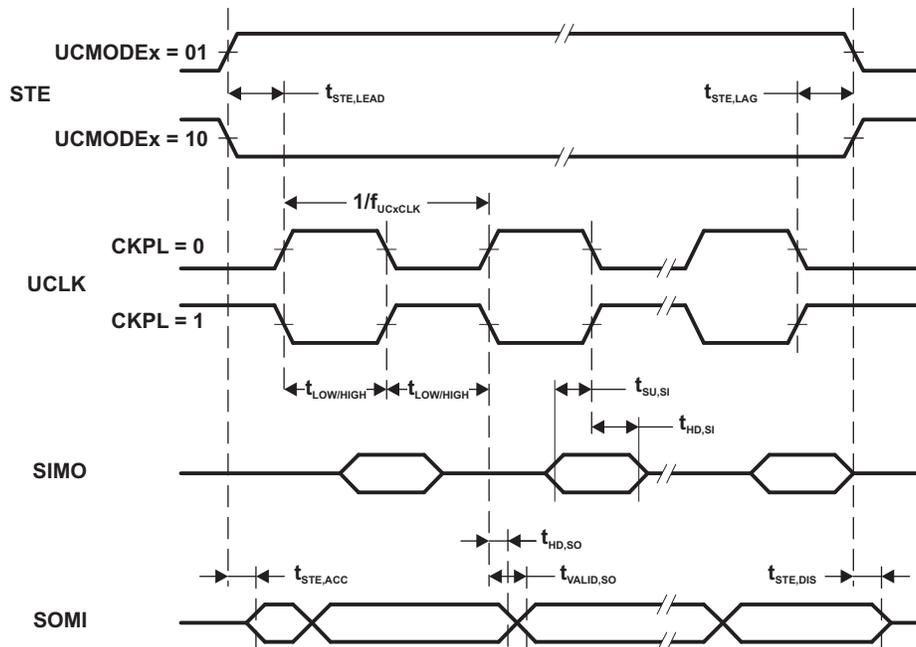
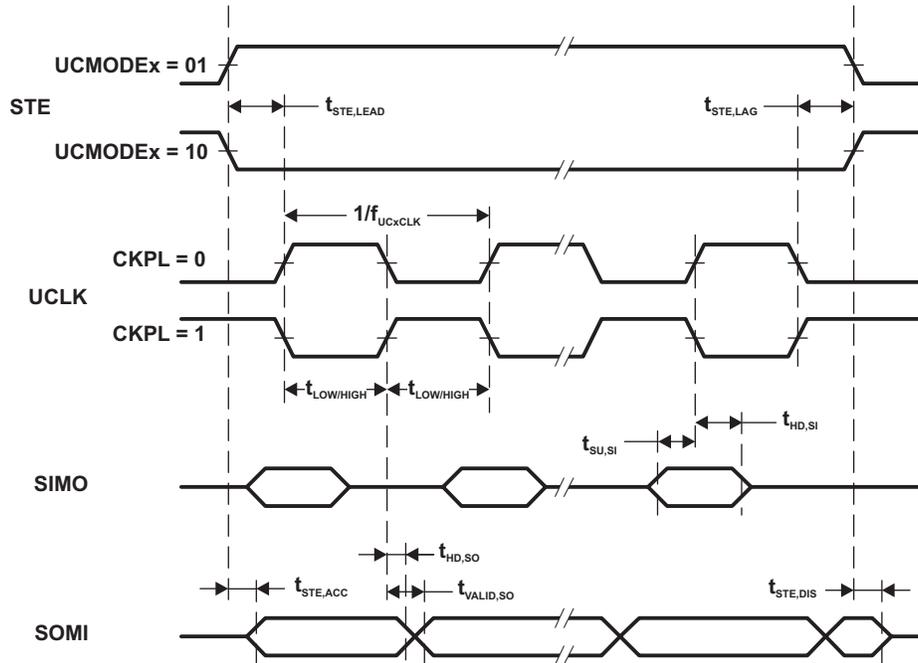

Figure 5-5. SPI Slave Mode, CKPH = 0
Figure 5-6. SPI Slave Mode, CKPH = 1
- (1) $f_{UCxCLK} = 1/2t_{LO/HI}$ with $t_{LO/HI} \geq \max(t_{VALID,MO(Master)} + t_{SU,SI(eUSCI)}, t_{SU,MI(Master)} + t_{VALID,SO(eUSCI)})$. For the master parameters $t_{SU,MI(Master)}$ and $t_{VALID,MO(Master)}$ refer to the SPI parameters of the attached slave.
- (2) Specifies the time to drive the next valid data to the SOMI output after the output changing UCLK clock edge. Refer to the timing diagrams in Figure 5-5 and Figure 5-6.
- (3) Specifies how long data on the SOMI output is valid after the output changing UCLK clock edge. Refer to the timing diagrams in Figure 5-5 and Figure 5-6.